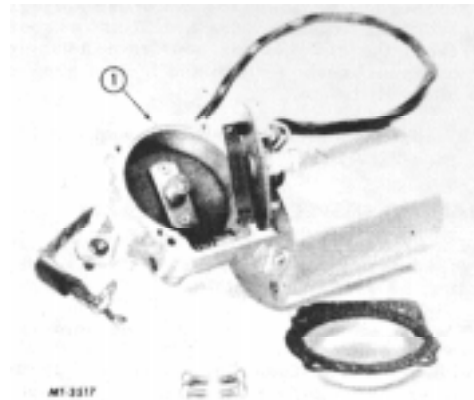

Fig. 9. Removing Drive Housing Cover Plate and Switch Contact Plate
Disconnect linkage from wiper motor and remove bolts holding mounting bracket to cowl. Remove wires from control switch and lift out motor assembly. Remove bolts holding mounting bracket to drive end housing (3). Remove drive end cover (11). Take out parking switch contact plate (9) from drive end housing (3). See Fig. 9. If parking switch assembly is to be replaced, unsolder the field coil leads from the switch terminals. It is important that you note to which terminal each Lead is connected.
Remove drive gear and shaft assembly (5). Take parking cam (8) and spring washer from gear and shaft assembly (5), if necessary. Take notice of the direction in which the dotted end of the cam faces (Fig. 9).